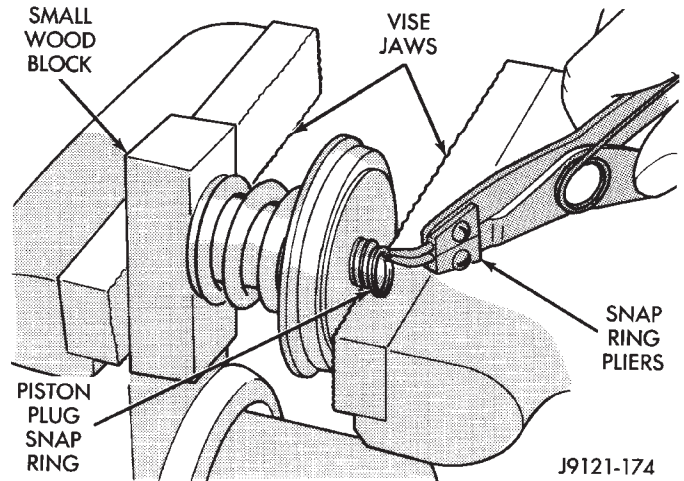

Fig. 102 Removing/Installing Servo Piston Plug Snap Ring
- (1) Remove seal from servo piston. Note which way seal lip faces for assembly reference.
- (2) Compress cushion spring in vise only enough to allow piston plug snap ring removal (Fig. 102). Use wood block between vise jaws and end of piston plug to keep plug aligned and in position.
- (3) Remove snap ring from end of piston plug (Fig. 102).
- (4) Open vise and remove wood block, piston plug, cushion spring and servo piston.